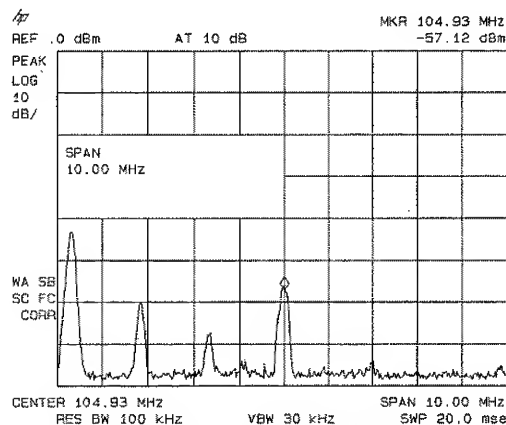

Figure 3-16. Low-Level Signal
5. Reduce the span to 10 MHz. Press **(SPAN)**, and then use the step-down key (**(⇩)**). See Figure 3-16.